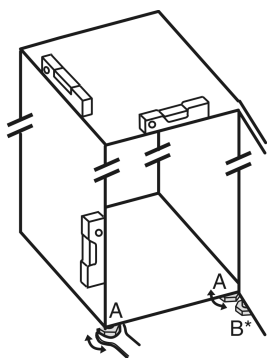

Fig. 5
- Unscrew the adjustable feet Fig. 5 (A) using the enclosed open-end spanner and a spirit level until the appliance is firmly aligned and level.
- Unscrew the adjustable foot Fig. 5 (B) on the swap bearing block with the enclosed open-end spanner until it rests on the floor.
- Turn the adjustable foot Fig. 5 (B) 90° further.